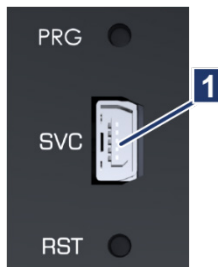

Fig. 7-2: SVC interface
4. Connect the gateway module to the PC/notebook via the SVC interface (Mini-USB, → Fig. 7-2/1).